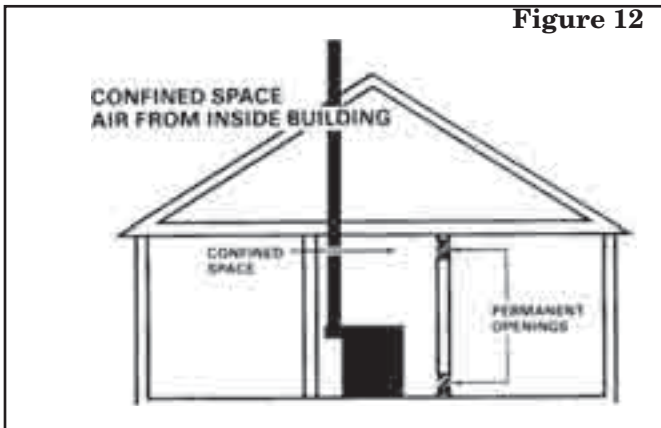

Figure 12
Confined spaces are installations with less than 50 cu. ft. of space per 1000 BTU/hr input from all equipment installed. Air for combustion and ventilation requirements can be supplied from inside the building as in Figure 12 or from the outdoors, as in Figure 13.
1. All air from inside the building as in Figure 12: The confined space shall be provided with two permanent openings communicating directly with an additional room(s) of sufficient volume so that the combined vol-